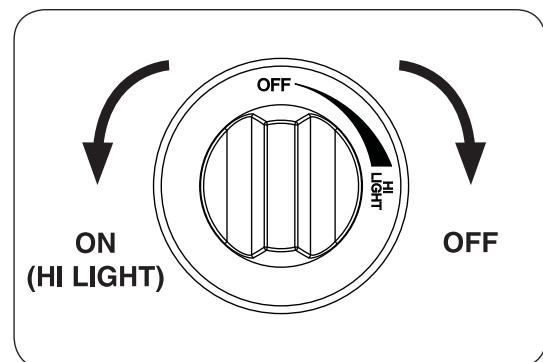

Fig. 25-2
- 4. **While holding the igniter button in, verify that the electrode spark is grounding to the flash tube**, then depress the gas control knob and **gradually** turn it counter-clockwise to the **HI LIGHT** position (see Fig. 25-2). Your burner should light.
To extinguish your gas burner, depress the gas control knob and turn it clockwise to the **OFF** position (see Fig. 25-2). Be sure the control knob is turned fully off to avoid any gas leakage.